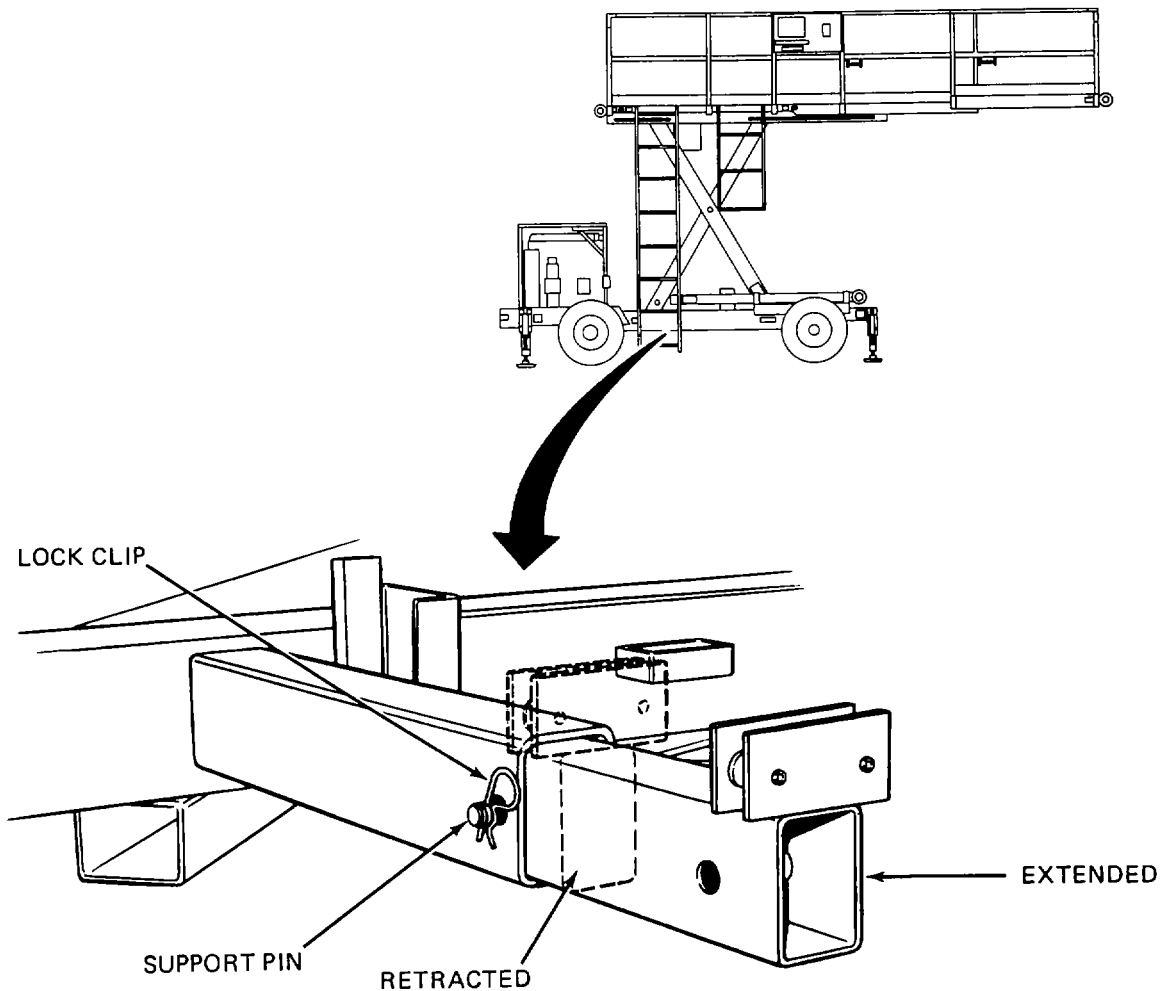

Figure 2-18. Ladder Support.
(1) To deploy ladder:
- (a) Remove lock clip securing support pin. See Figure 2-18.
- (g) Remove lock clip securing support pin. See Figure 2-18.